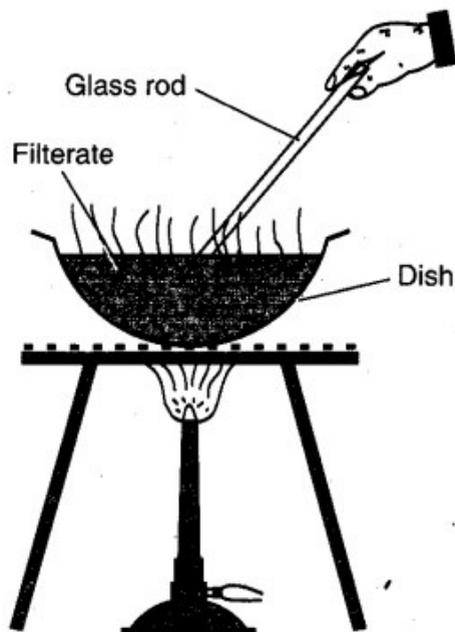

Fig. 5.6. Evaporation of solution.
1. Place the dish containing the clear filtrate over wire gauze, kept over a tripod stand and heat it gently (Do not boil). Stir the solution with a glass rod (Fig. 5.6). This is done to ensure uniform evaporation and to prevent formation of solid crust.